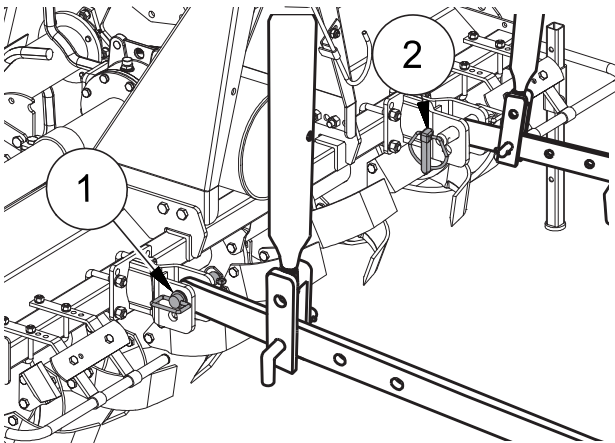

FIG. 21
- Move the power-lift bars to the lower hitches ("Fig. 21"). Insert the attachment pins (1). Fasten the pins with the trigger pins (2) part of standard equipment.